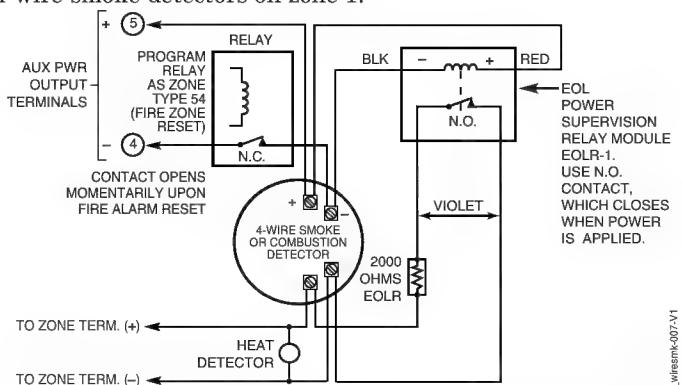

Figure 9a. 4-Wire Smoke Detector Using Relay for Power Reset
3. Connect 4-wire smoke detectors (number of detectors depends on detector current draw) to any zone from 2-8 as shown in Figures 9a and 9b (on next page).